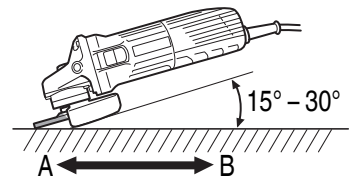

Fig. 4
Do not apply the entire surface of the depressed center wheel to the material to be ground. As shown in **Fig. 4**, the machine should be held at an angle of $15^\circ - 30^\circ$ so that the external edge of the depressed center wheel contacts the material at an optimum angle.
4. To prevent a new depressed center wheel from digging into the workpiece, initial grinding should be performed by drawing the grinder across the workpiece toward the operator (**Fig. 4 direction B**).